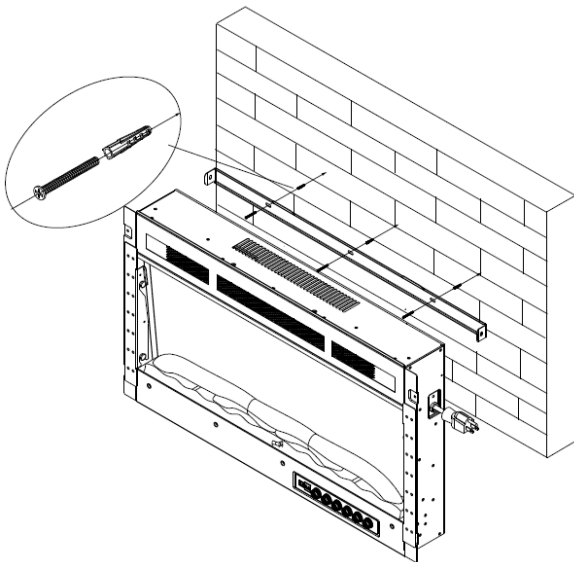
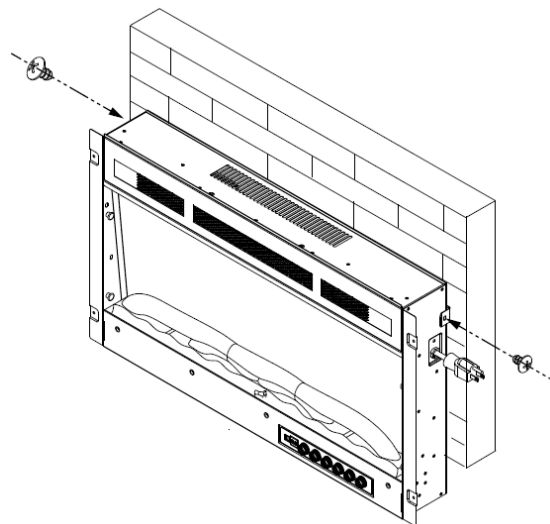

Fig.5
Fig.6
F. With the wall mounting bracket installed have two people lift the appliance up and insert the two hooks on the bracket into the two slots on the back of the appliance. Use original 4x8mm screws to fasten wall bracket. Refer to Fig 5 and Fig 6